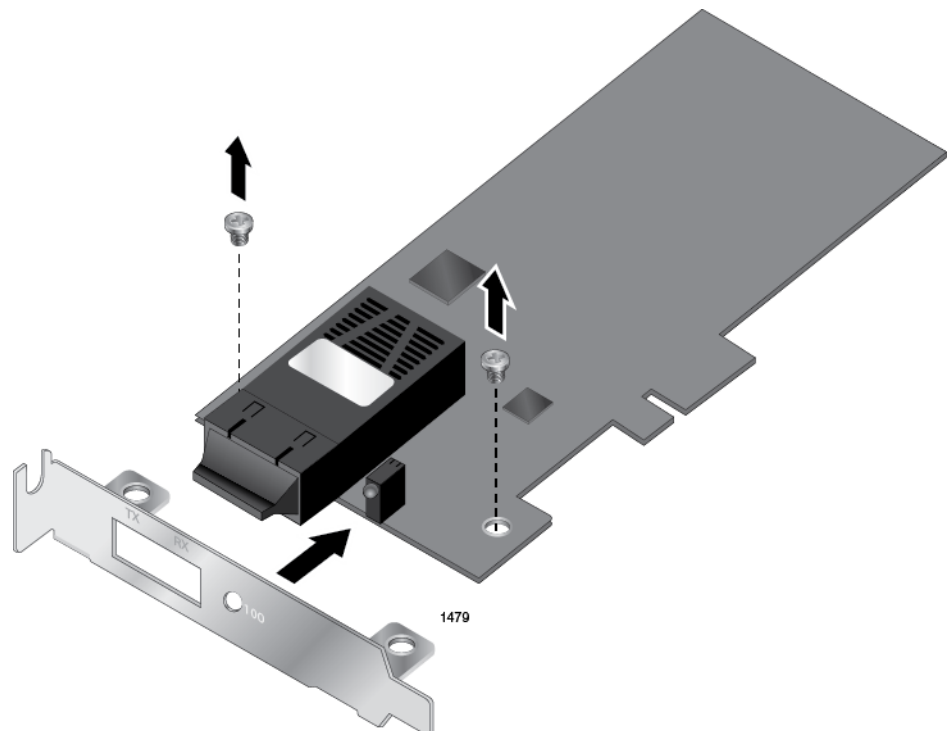

Figure 9. Removing the Low-Profile Bracket
1. Remove the screws that attach the bracket to the adapter. See Figure 9.